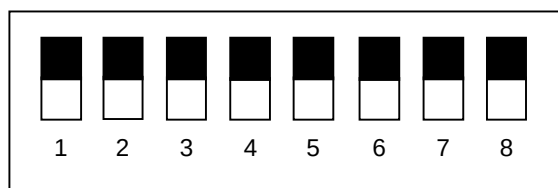

Figure 4.2 Standard DIP Switch Settings
- (3) Perform the following procedure.
(4) Set DIP switch No.4 as shown in Figure 4.2.